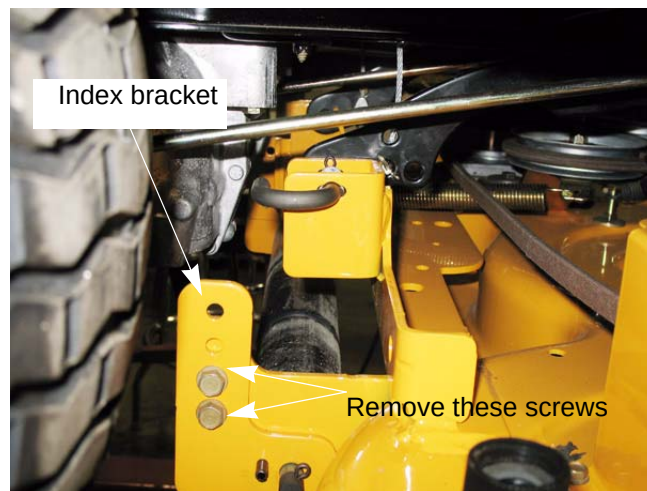

Figure 8.14
- A Support the roller assembly and remove the two self tapping screws from both the left and right roller index brackets. See Figure 8.14.